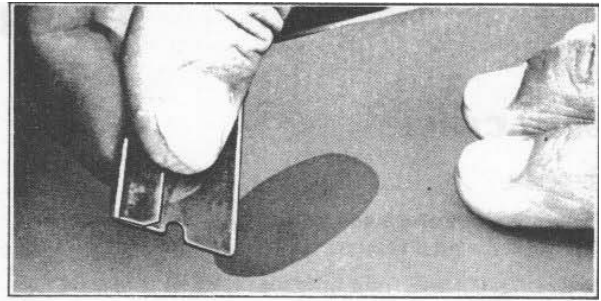

Figure 2-70. Spreading Gel Coat Evenly
8. Spread the gel coat level with the surrounding area and allow to cure (30-60 minutes). See Figure 2-70. Gel coat can be covered with cellophane, if desired, to aid in
4. Fill the scratch or hole slightly above the surrounding undamaged area, working the Filler coat into the damaged area with a putty knife. Be careful to puncture and eliminate any air bubbles which may occur. Patch can be covered with cellophane to aid in spreading evenly (see Figure 2-70). Allow to cure completely before removing cellophane.